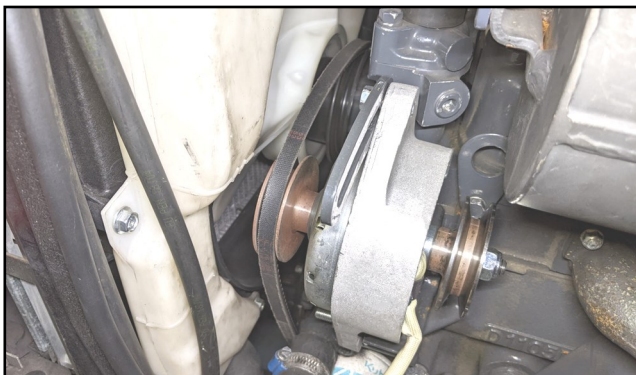

Fig. 2.4 (Install belt and set the tension)
- 2.4 **Install the belt over the new dynamo pulley. Ensure the belt is properly running on all pulleys. See fig. 2.4.**